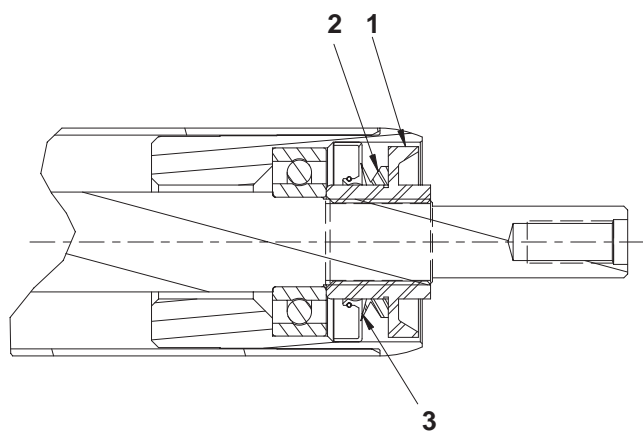

Figure 4
15. Insert a V-ring onto each nut (Fig. 4).
16. Lubricate seal lip with #2 grease (Fig. 4).
17. Install a nut with V-ring onto each end of the roller (Fig. 4). Torque the nuts to 25 to 30 ft.-lbs. (34–41 N·m).